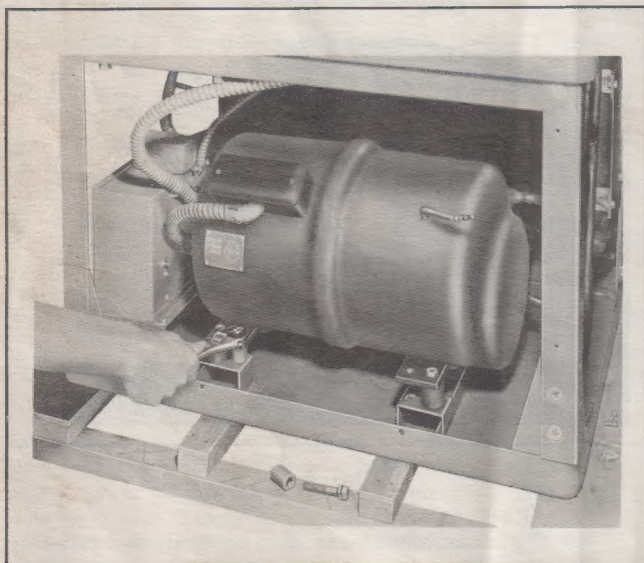

Fig. 6
- (c) Remove the four hold down bolts and sleeves from the compressor. See Fig. 6.